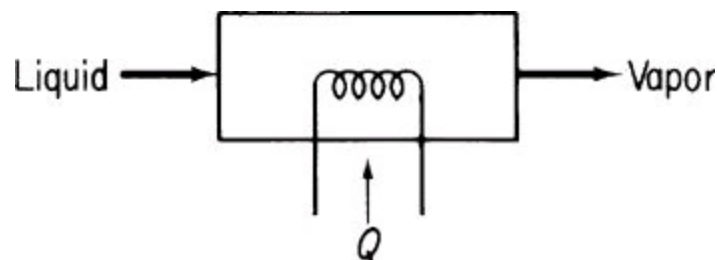

Figure P12.2
- 12.2.** Determine the number of degrees of freedom for the reboiler shown in Figure P12.2. What variables should be specified to make the solution of the material and energy balances determinate?